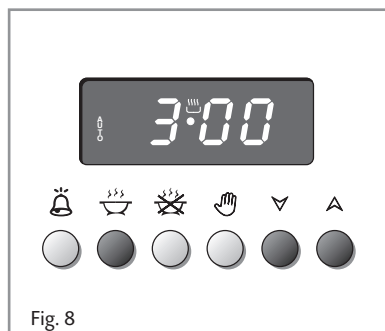

Fig. 8
1. Set the length of the cooking period by pushing the  button and the  button to increase, or  to decrease if you have passed the desired time (fig. 8). The AUTO and the  symbol will illuminate.